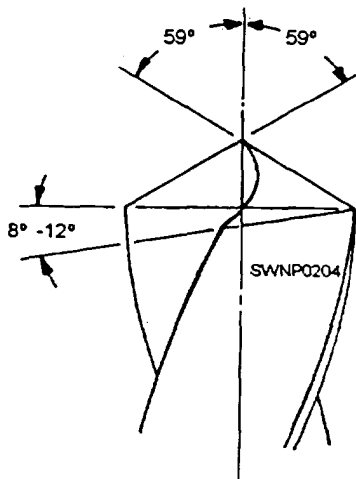
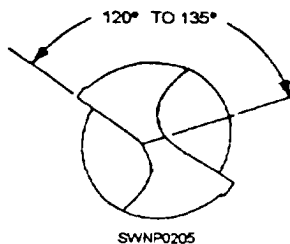

Figure 12-18.—Lip clearance.
Figure 12-19.—Angle of the dead center.
1. **LIP CLEARANCE** (fig. 12-18). The two cutting edges or lips are comparable to chisels. To cut effectively, you must relieve the heel or that part of the point back to the cutting edge. Without this clearance, it would be impossible for the lips to cut. If there is too much clearance, the cutting edges are weakened. Too little clearance results in the drill point merely rubbing without penetration. Gradually increase lip clearance toward the center until the line across dead center stands at an angle of 120 to 135 degrees with the cutting edge (fig. 12-19).